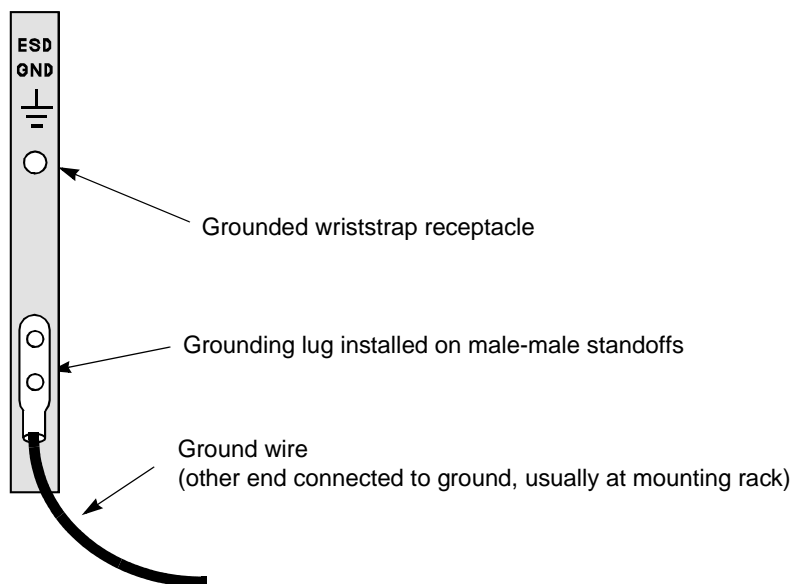

Figure 4-14. SA 1200 Grounding Lug
2. Screw the two male-male standoffs into the pretapped holes on the right side of the chassis as shown in Figure 4-14.
4. Mount the ground lug on the male-male standoffs (as shown in Figure 4-14) and secure using the included washers and lock nuts.